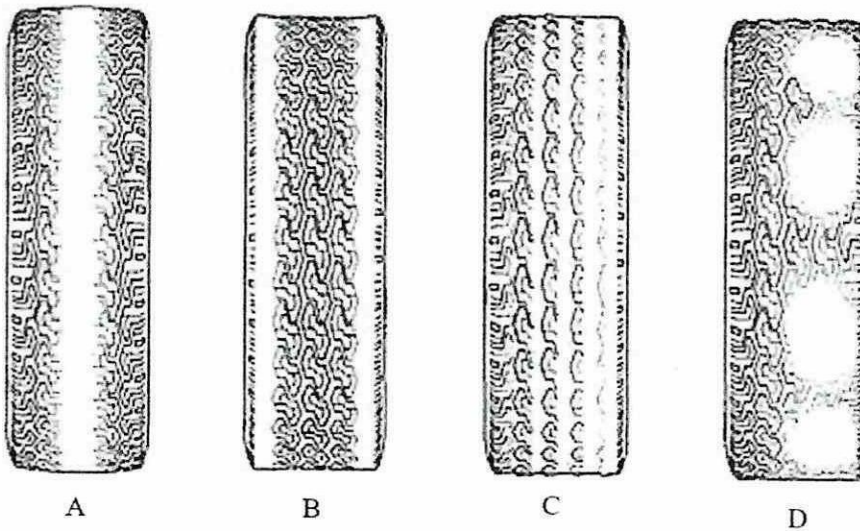

Figure Q4.2
(b) Analyze the causes of center rib wear (A), outer rib wear (B), side wear (C), and cupped wear (D) based on the wear pattern shown in **Figure Q4.2**.